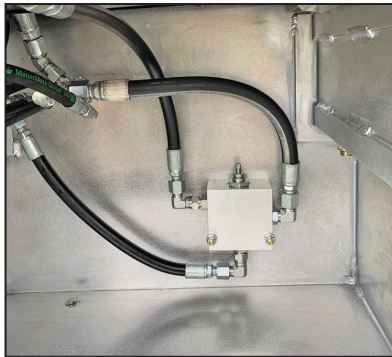

Figure 35 — Priority valve
- ☐ Install the priority valve in a location where it will be protected from hot, sharp or moving parts, and where the adjustment screw will be accessible (Figure 35).